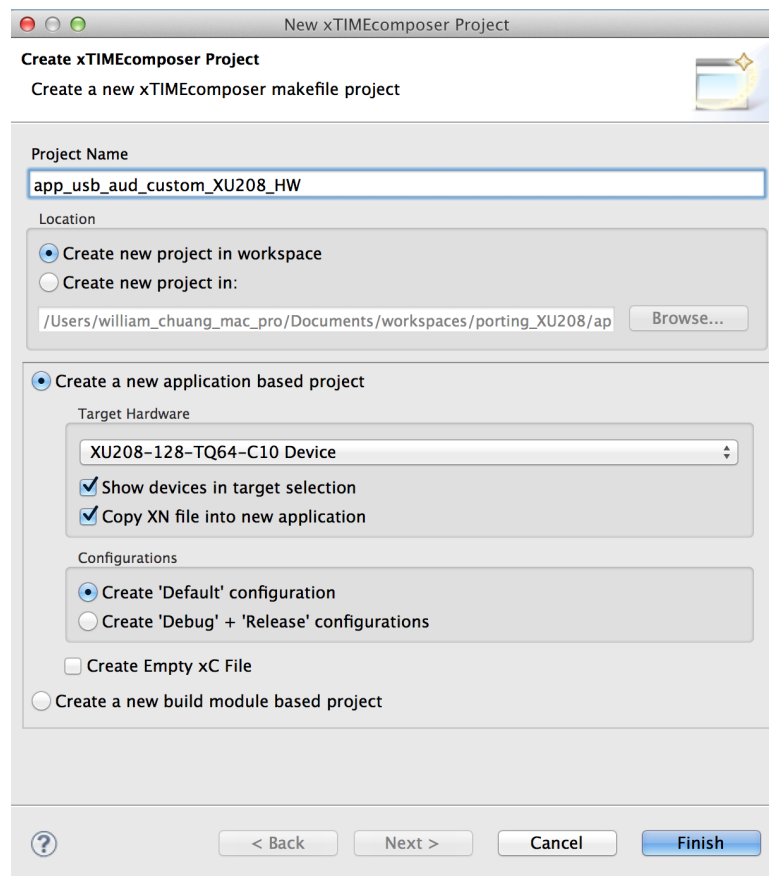

Figure 1: Example of creating a new project
2. In the **New xTIMEcomposer Project** dialog (see Figure 1), fill in the project name in the **Project Name** field (in this application note, it is named as “app\_usb\_aud\_custom\_XU208\_HW”).